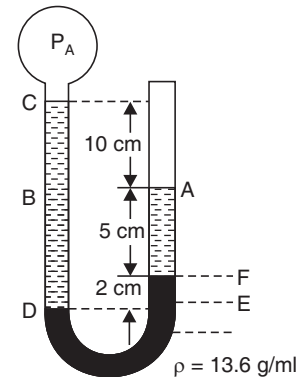

FIGURE 1.10
30. Refer to Fig. 1.10, the absolute pressure of gas A in the bulb is